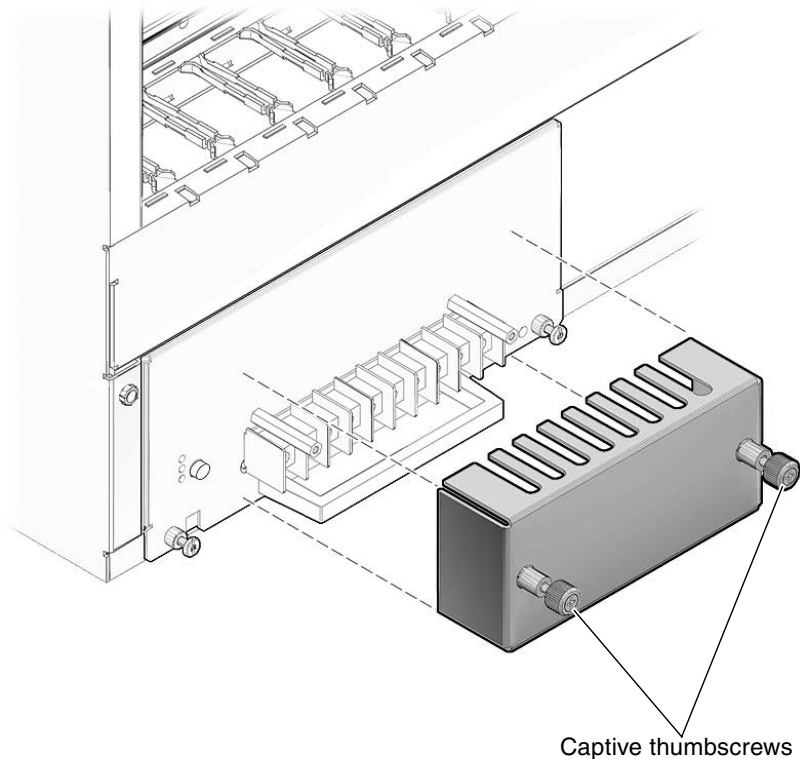

FIGURE 5-2 Removing the Terminal Cover
4. Loosen the two captive thumbscrews that secure the terminal block cover onto the power entry module (FIGURE 5-2).
4. Replace the terminal block cover over the terminal posts and secure the cover to the power entry module using the two captive screws (FIGURE 5-2).